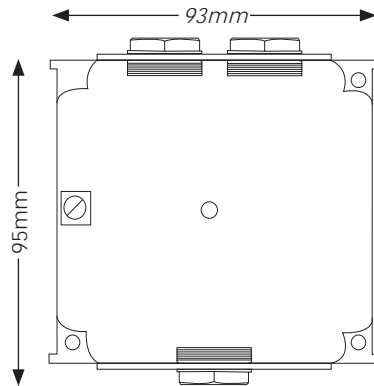

Fig 1 Backbox
- Fit the backbox to a flat surface using the three fixing holes and screws provided. The cable entry holes should be in the vertical plane. The backbox can be mounted with either the single or double entry holes at the top.(Fig 1).